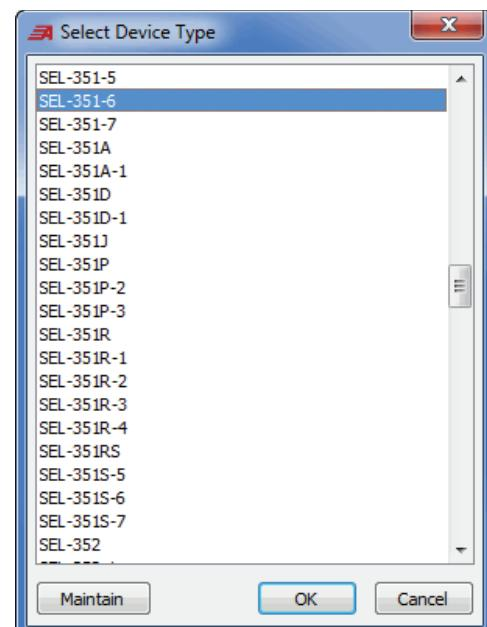

Figure 13 Select the SEL-351-6
- Step 3. Right-click the **Ethernet Event Collection** folder and select **Add > Device**. Select **SEL-351-6** and select **OK**. *Figure 13* shows SEL-351-6 selected in the **Select Device Type** window.